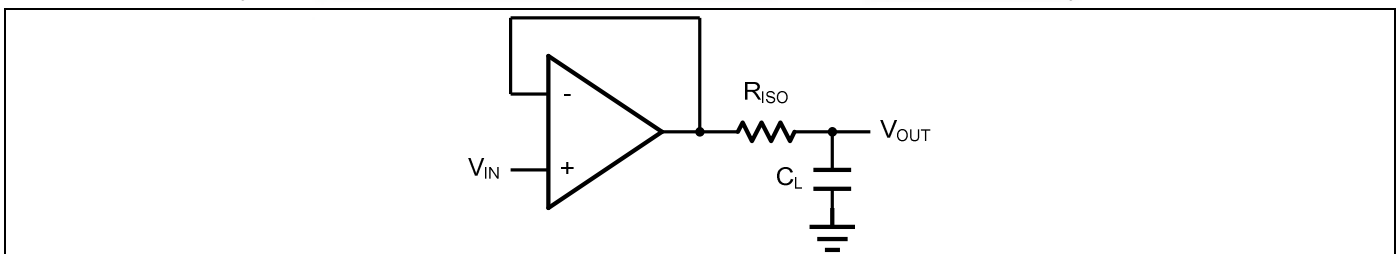
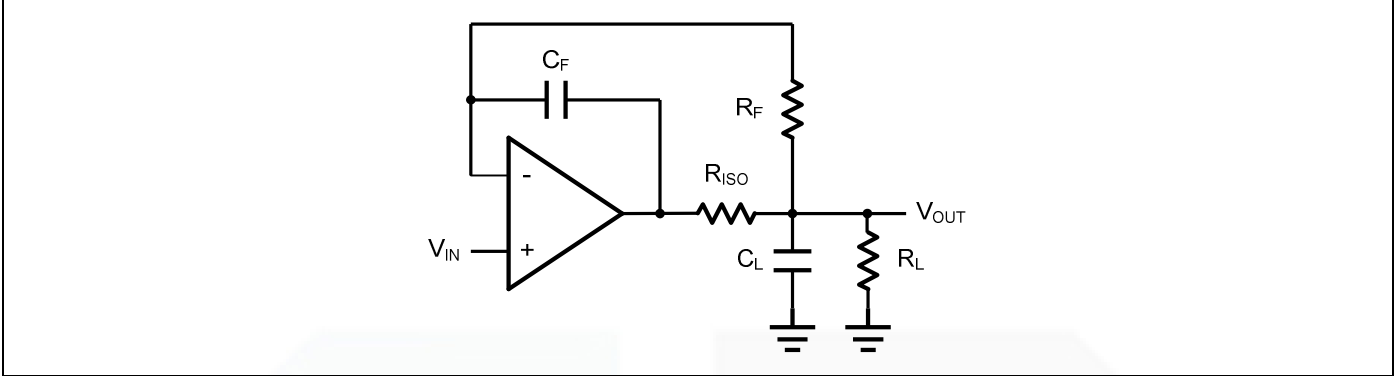

Figure 2. Indirectly Driving a Capacitive Load Using Isolation Resistor
Figure 3. Indirectly Driving a Capacitive Load with DC Accuracy
The GS8333 family is optimized for bandwidth and speed, not for driving capacitive loads. Output capacitance will create a pole in the amplifier's feedback path, leading to excessive peaking and potential oscillation. If dealing with load capacitance is a requirement of the application, the two strategies to consider are (1) using a small resistor in series with the amplifier's output and the load capacitance and (2) reducing the bandwidth of the amplifier's feedback loop by increasing the overall noise gain. Figure 2. shows a unity gain follower using the series resistor strategy. The resistor isolates the output from the capacitance and, more importantly, creates a zero in the feedback path that compensates for the pole created by the output capacitance.
The circuit in Figure 3 is an improvement to the one in Figure 2.  $R_F$  provides the DC accuracy by feed-forward the  $V_{IN}$  to  $R_L$ .  $C_F$